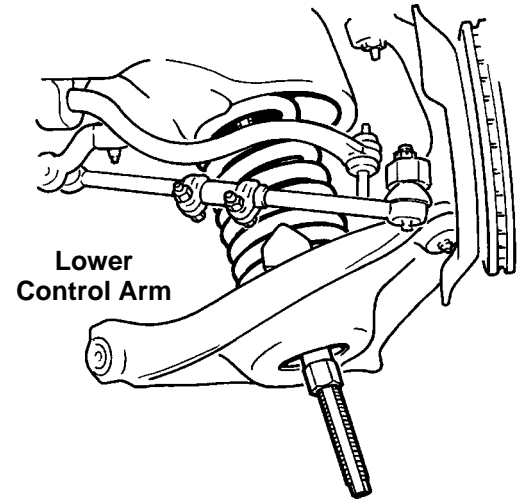

Figure 3
13. Remove the lower control arm pivot bolts. Disengage the lower control arm from the frame. See Figure 3.